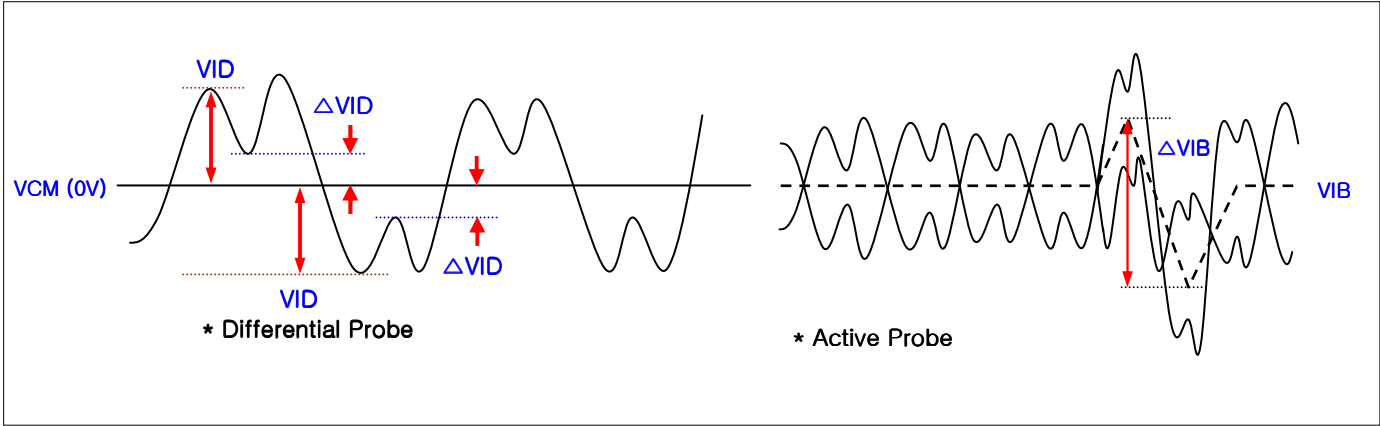

FIG. 2 Description of VID, ΔVIB, ΔVID
5. In case of mini-LVDS signal spec, refer to Fig 2 for the more detail.